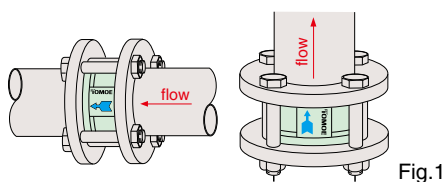

Fig.1
- After fixing center of both flanges, insert piping bolts and put the valve. (Fig.1)
[Fig.1]
- Install the valve so that the cast marking on the body of the Bata-Check corresponds with the flow direction. (Fig. 1)